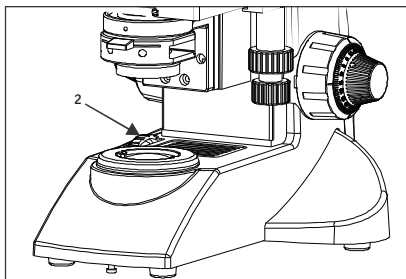

Fig. 20
2. Rotating the light intensity adjustment knob (Fig. 20) in the direction of the arrow increases brightness and rotating knob in the opposite direction decreases brightness. The intensity bar next the knob indicates the direction of intensity level.